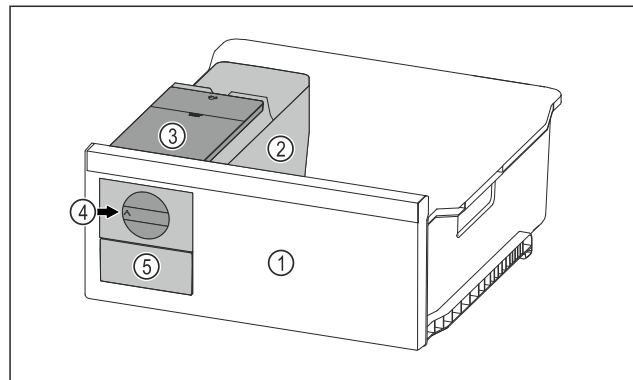

Fig. 78 Example illustration
- ▶ Turn the rotary knob Fig. 78 (4) clockwise as far as it will go.
- ▷ Ice cubes fall from the ice cube tray into the ice cube drawer Fig. 78 (5).